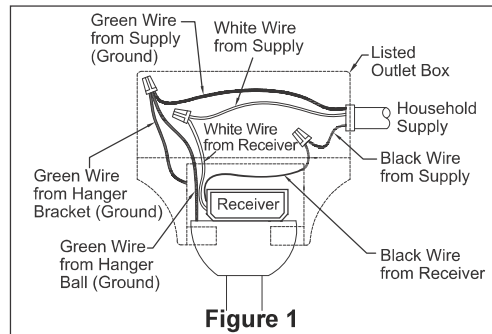

Figure 1
- (Figure 1)
- ☐ After all connections have been made, carefully push the connected wires into the outlet box. Ensure that the white and green (ground) wires are positioned on one side of the box and the black (hot) wire is positioned on the opposite side, as shown in Figure 1
- 3. Tighten the first shoulder screw, then attach and secure the second shoulder screw. (See Figure 1)
- ☐ **IMPORTANT:** Do not use a full - range dimmer switch to control fan speed. This may damage the fan or cause fire/electrical shock. (See Figure 1)